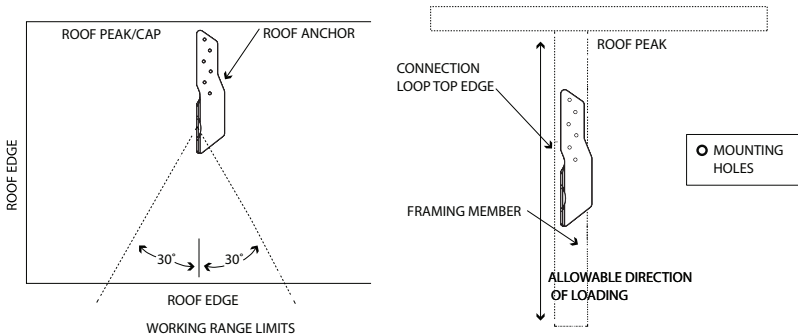

Figure B-1
1. Position the roof anchor on the roof such that the six (6) mounting holes are over a framing member. Note the orientation of the connection loop top edge. It should be parallel to the longitudinal direction of the framing member and fall direction. See Figure B-1.